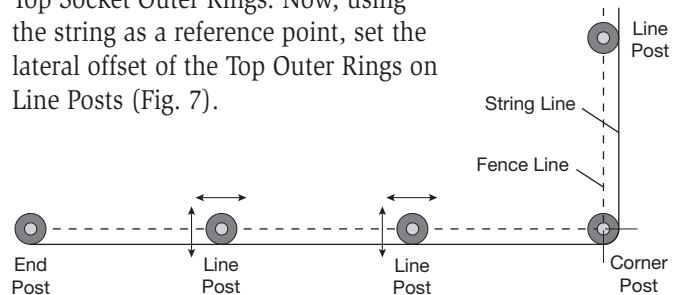

Figure 7
**Offset Adjustment of Top Socket Assemblies on Line Posts.** On each fence section, between End and Corner Posts, run a string line tightly wrapped around the outer circumference of the Top Socket Outer Rings. Now, using the string as a reference point, set the lateral offset of the Top Outer Rings on Line Posts (Fig. 7).